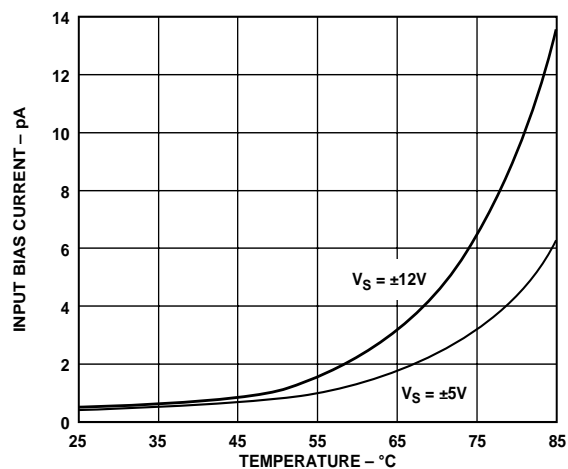

Figure 22. Input Bias Current vs. Temperature
- It should be noted that for every 10°C rise in temperature, I_B approximately doubles (see Figure 22).